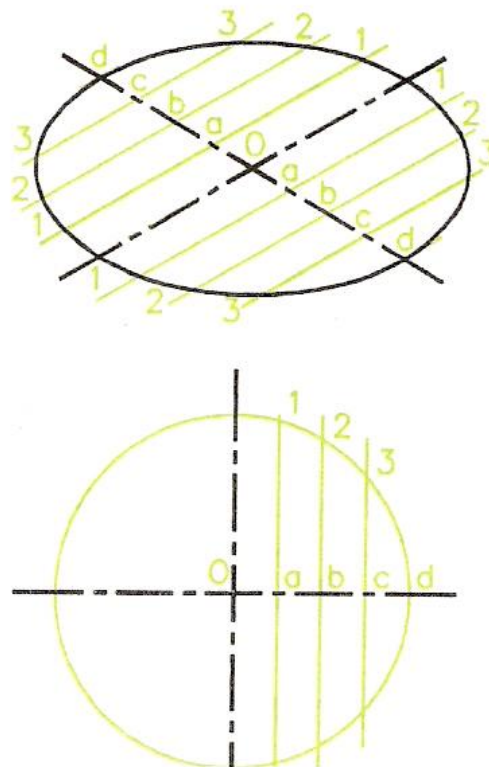
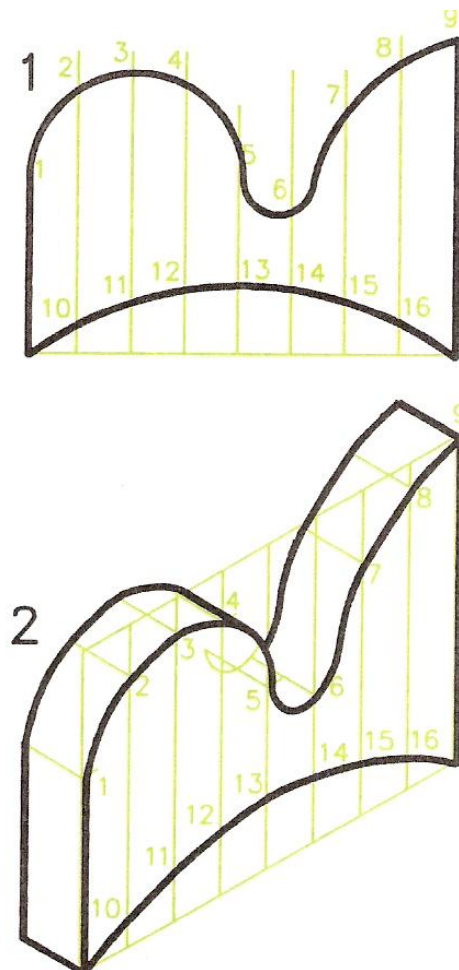

Figure 16 - Method of Constructing an Isometric Circle
Figure 30 - Example of Drawing an Isometric Curve using the Ordinate Method of Construction
Figure 16 shows how an isometric circle is constructed:
1. Draw a circle of the required diameter - the lower drawing of Figure 16. Draw vertical lines - a, b and c - at any spacings across the circle.
2. Draw the two centre lines for the circle at 30 degrees each way - the upper drawing of Figure 16.
2. Construct the rod using the method shown in Figure 16 to draw the curves of the isometric circles.
The method of drawing ellipses (from circles) in isometric drawings as shown in Figure 16 is suitable for the drawing of more complicated shapes and curves in isometric drawings as shown in Figure 30. This illustration shows: